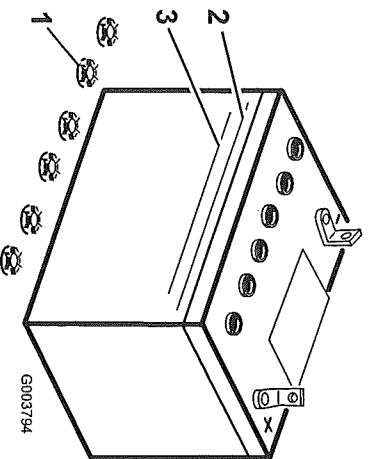

Figure 38
2. Look at the side of the battery. The electrolyte must be up to the Upper line (Figure 38). Do not allow the electrolyte to fall below the Lower line (Figure 38).
3. Remove the filler caps from the battery (Figure 38).
4. Slowly pour distilled water into each battery cell until the electrolyte level is up to the Upper line (Figure 38) on the battery case.
5. Wait five to ten minutes after filling the battery cells. Add distilled water, if necessary, until the electrolyte level is up to the Upper line (Figure 38) on the battery case.